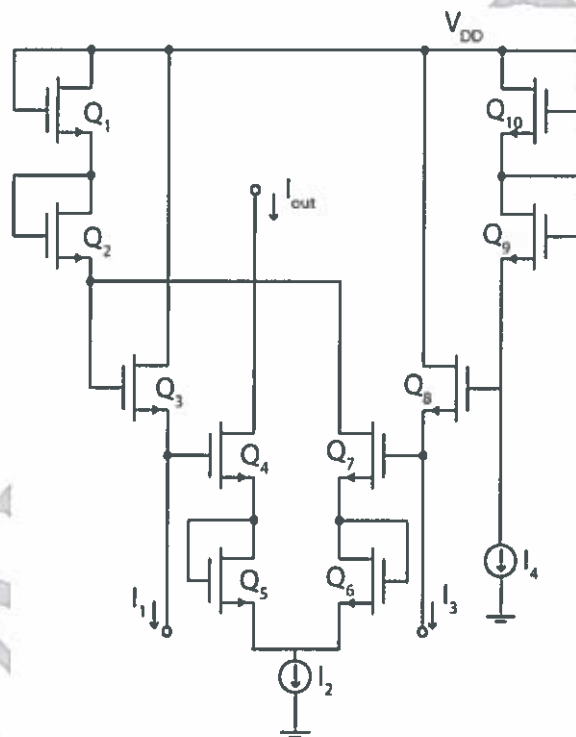

Figure 2.1
- c. Figure 2.1 shows a translinear circuit.